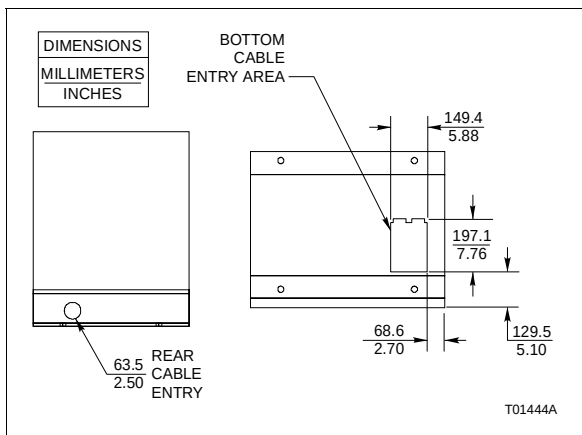

Figure PR5-2. Console Model Cable Entry Cutouts
- ☐ 2. Bring the power wiring from the service in through one of the cable entry cutouts in the console. Figure PR5-2 shows the location of the cable entry cutouts.